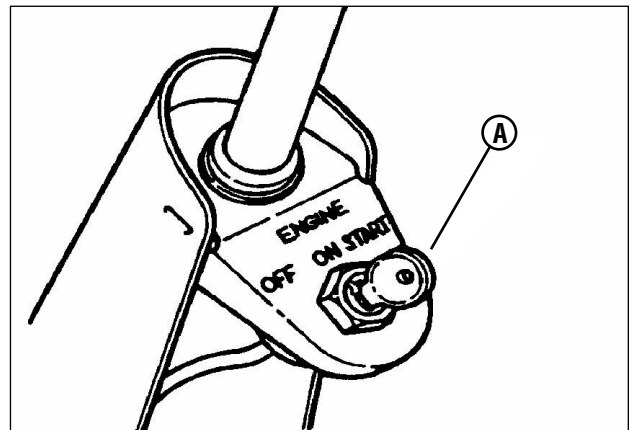

Figure 7: Ignition key
6. Turn the ignition key (**A, Figure 7**) to the “START” position until the engine starts.